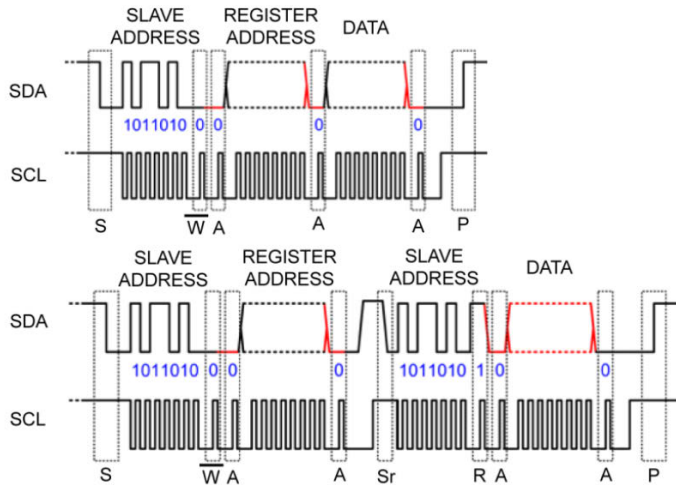

Figure 2. I2C Timing Example
Figure 2 shows the communications required for write and read operations via the I2C interface. The black lines show master communications and the red lines show the slave communications. During a write operation the master must drive SDA and SCL for all stages except the acknowledgement (A) shown in red, which are provided by the slave (MIC2870):